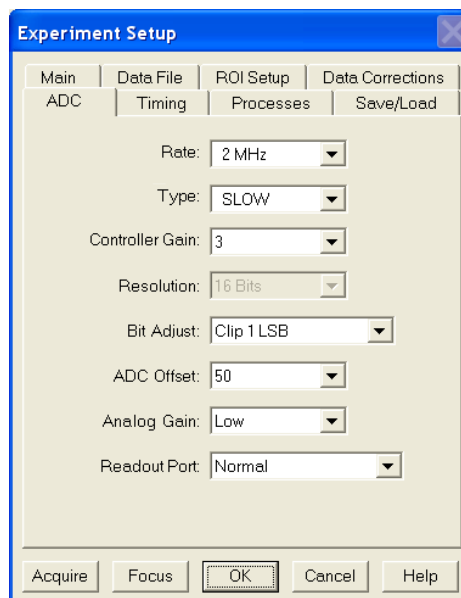

Figure 32. Generic ADC tab
5. On the **ADC** tab (Figure 32), set the parameters as they apply to your particular system.